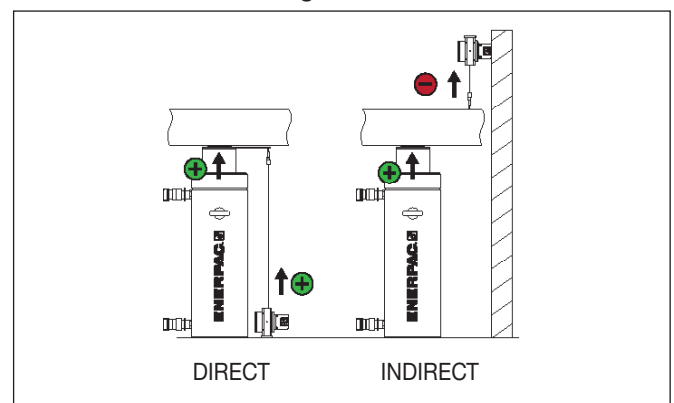

Figure 46: Direct and Indirect Layout
1. Position sensor scale: Depending on where the stroke sensor is placed, the user must select between direct or indirect movement. When the cylinder's plunger movement and the stroke sensor's wire are extending (positive movement), the movement is called direct. When the cylinder is extending but the stroke sensor wire is retracting (negative movement) the movement is called indirect. Refer to Figure 46 for further details.